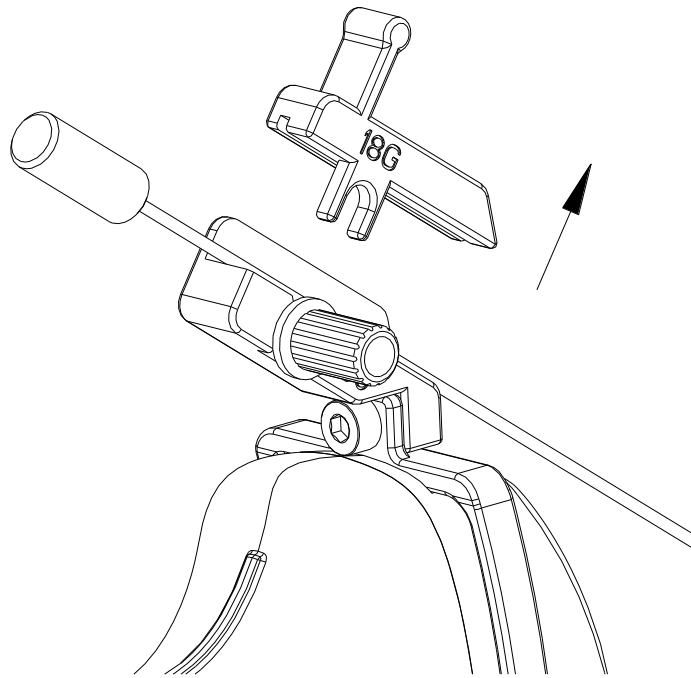
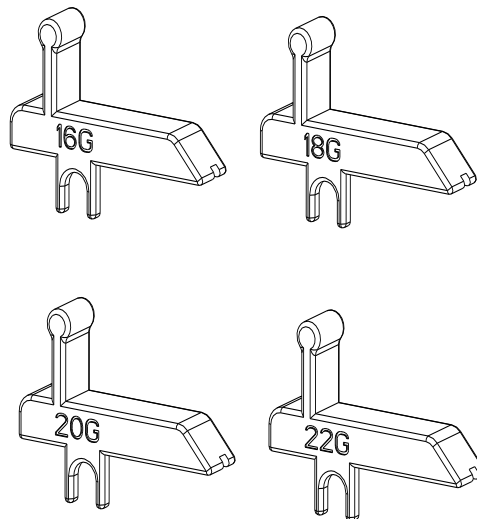

Figure 6-34 Removing the Vessel
Figure 6-35 Vessel Models
Step 5: To replace probe, needle, vessel, or to remove bracket, turn the knob 1 counterclockwise (slightly), remove the vessel as the arrow direction shown in *Figure 6-34*, and then replace the probe, needle, vessel, or remove the bracket if necessary. To replace a vessel, perform the reverse procedures. Models of the supported vessel are shown in *Figure 6-35*.